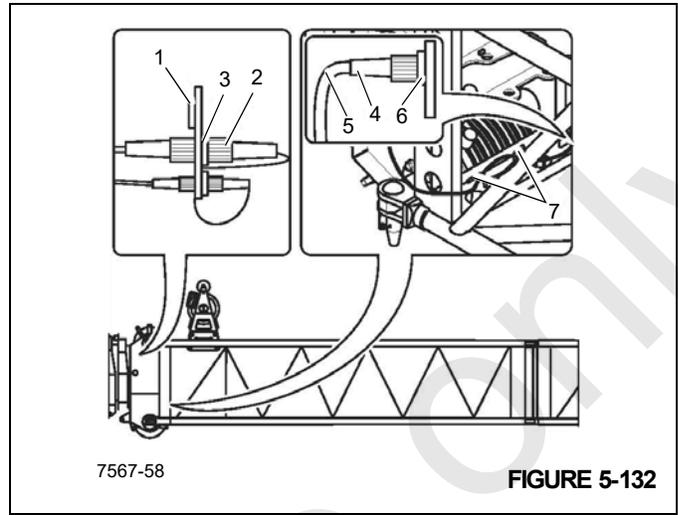

FIGURE 5-132
Refer to (Figure 5-130) and (Figure 5-132).
1. Remove the plug (4), (Figure 5-132) from the socket (3), (Figure 5-132) and plug into the dummy socket (6), (Figure 5-132).
2. Wind the cable (5), (Figure 5-132) onto the holder (7), (Figure 5-132).